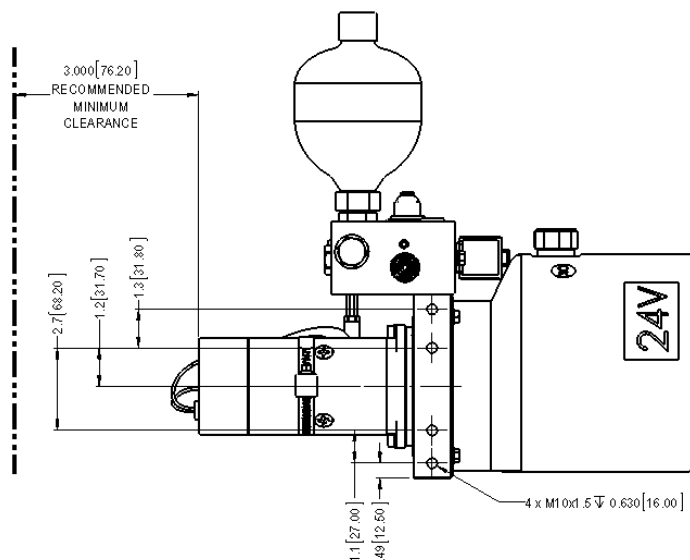
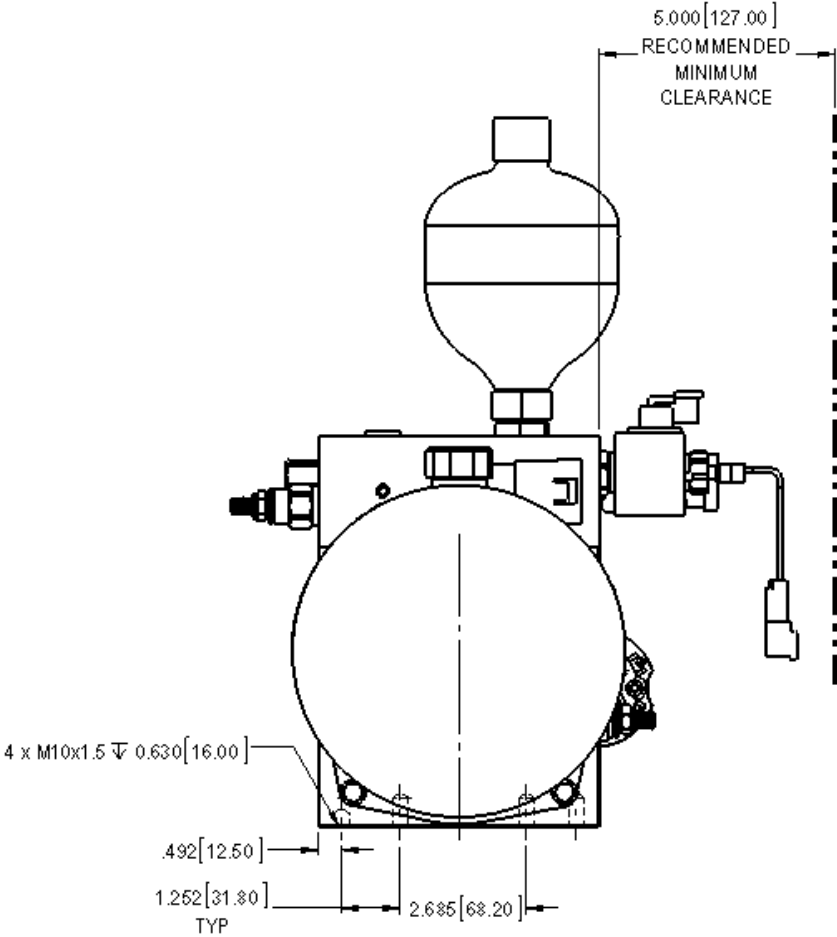

Figure 1
Figure 2
5.3.2. Mount the Pump assembly using at least 4 of the 8 provided mounting holes indicated in Figure 1 and Figure 2.